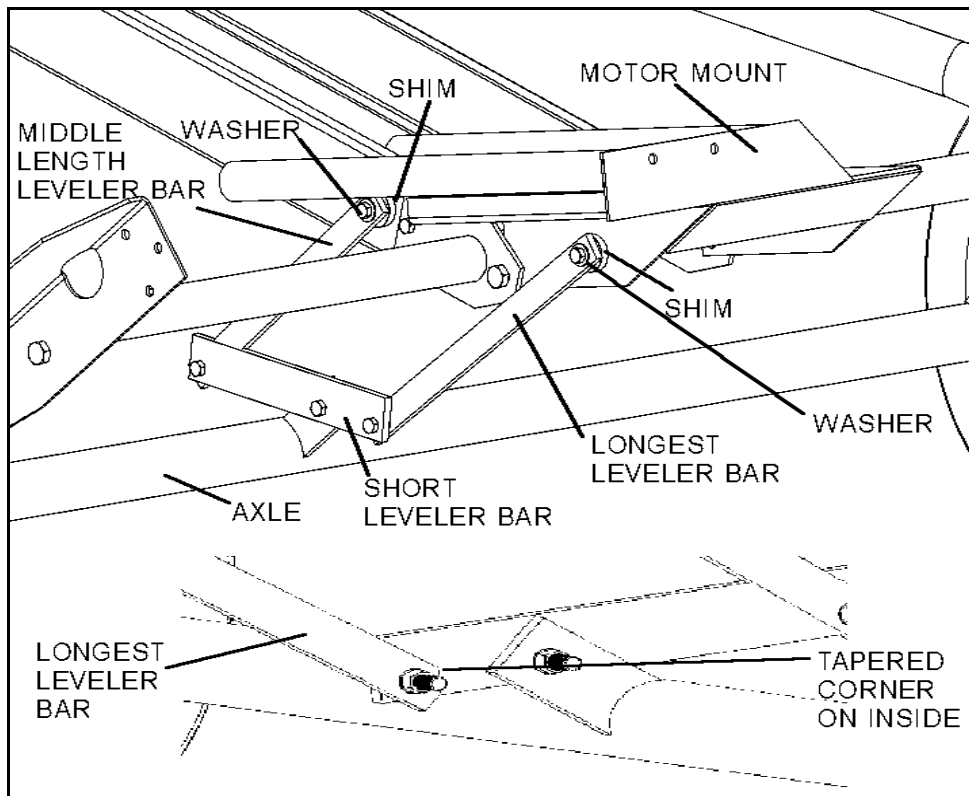

Figure 3.25 Leveler Bar Installation
1. Attach motor mount assembly to frame with two 5/8" x 1-1/2" bolts and locknuts. Do not fully tighten; this acts as a pivot point (Figure 3.25).
5. Attach motor mount push bracket to motor mount using two 7/16" x 1" bolts and locknuts (Figure 3.25).
9. Install motor mount slider assembly onto motor mount (Figure 3.25).